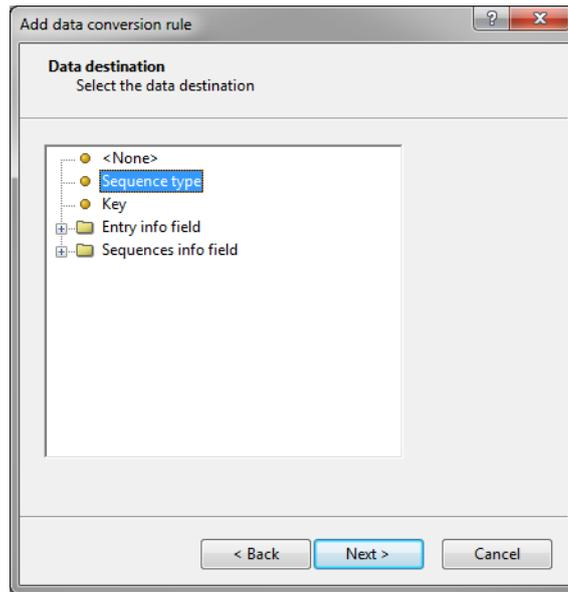

Figure 5: Link to a sequence type experiment.
11. Select **Sequence type** from the list (see Figure 5) and press **<Next>** once more.